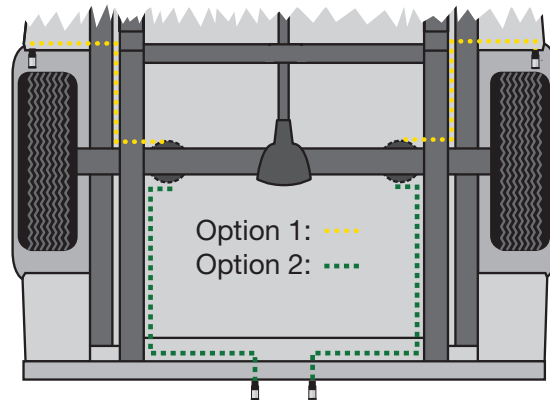

fig. E.1
1. Choose a convenient location for mounting the inflation valves (Fig. E.1). Popular locations for the inflation valve are: